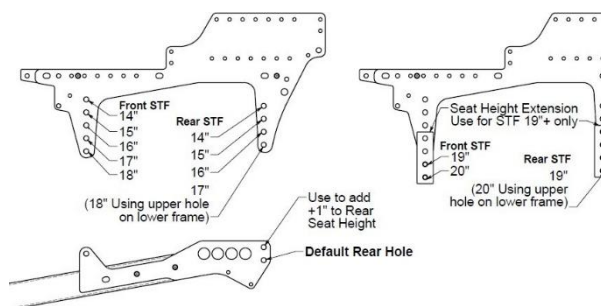

Fig. 17: Recommended chair position.
2. Move the upper frame to the desired position shown in Figure 17.